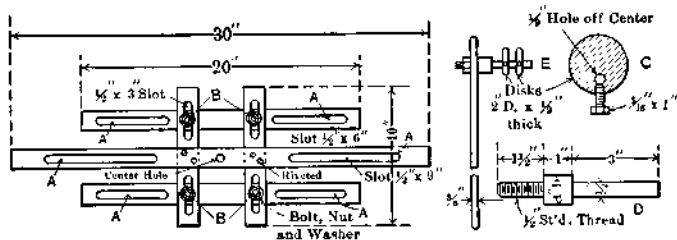

FIG. 283.—Framework for use in winding different shapes of armature coils.
**Special Coil-winding Device.**—For winding coils of practically any shape the special device shown in Fig. 283 has been